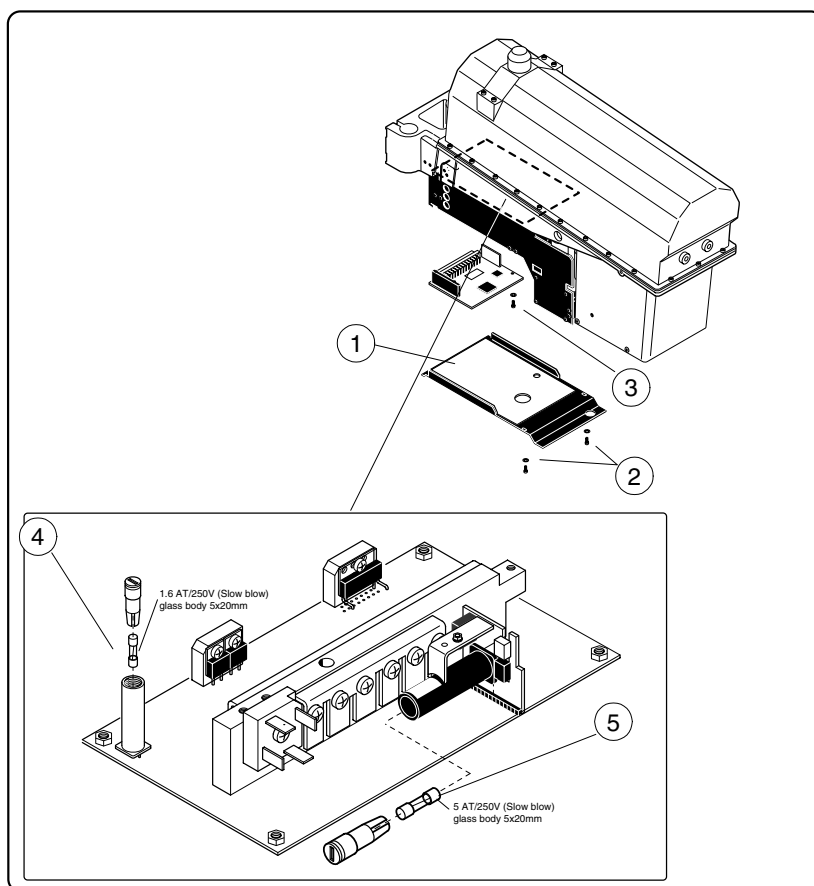

Figure H.12
- Remove the two screws and washers (Fig. H.12, 2) of the power supply cover (Fig. H.12, 1). Remove the cover.
- Remove the single screw (Fig. H.12, 3) holding the Tube CPU in place and carefully remove the board by first pulling it from the edge connector until it opens.
- Replace the required fuse (Fig. H.12, 4 or 5).